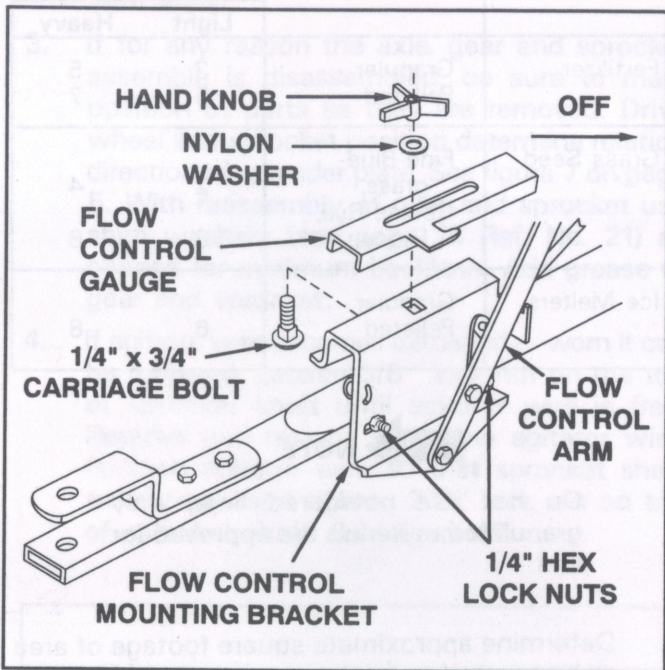

FIGURE 14
- Assemble the flow control gage onto the flow control mounting bracket using a 1/4" x 3/4" carriage bolt, a nylon washer and the plastic hand knob. See figure 14.
- Move flow control arm to off position and slide flow control mounting bracket toward hopper until closure plate (located in bottom of hopper) is completely closed. Tighten 1/4" hex lock nuts assembled in step 19. See figure 14.